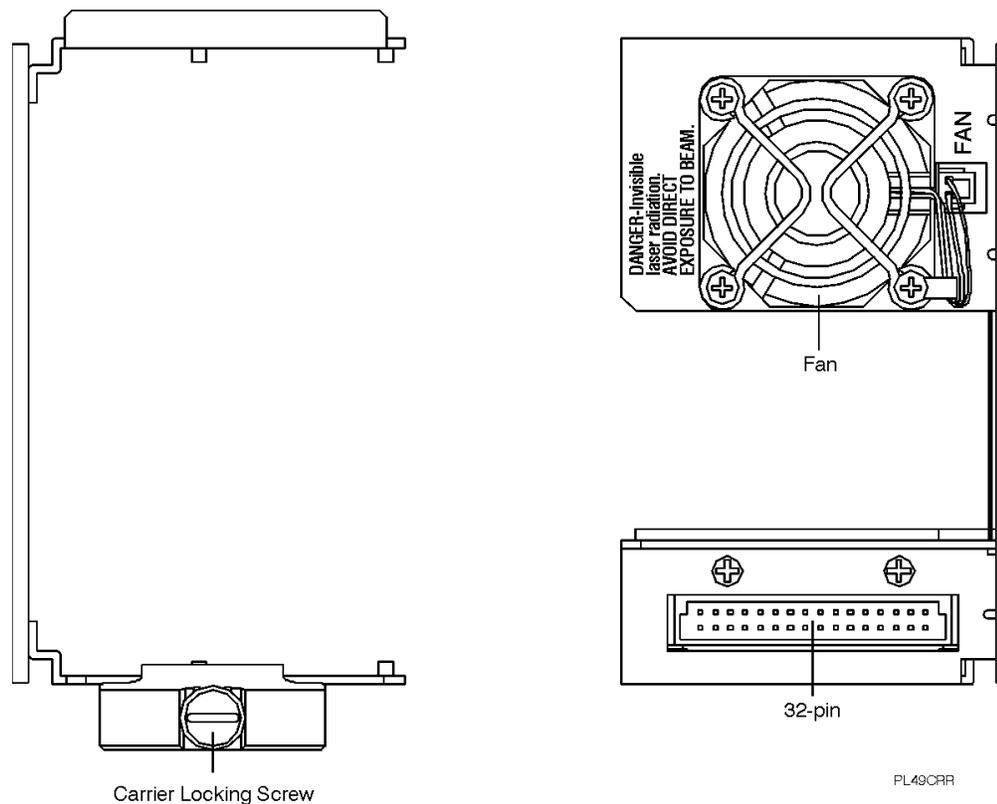

Figure 2-1. HMC 4000 module carrier front and rear panel features
The HLD 7105T transmitter module plugs into the HMC 4000 module carrier, shown in Figure 2-1. The transmitter module is held in the carrier by a spring-loaded tab on the front handle of the carrier. You can place the HMC 4000 carrier into any desired position in the HLP 4200 Platform.
3. Lock the carrier into position with the carrier locking screw, shown in Figure 2-1.